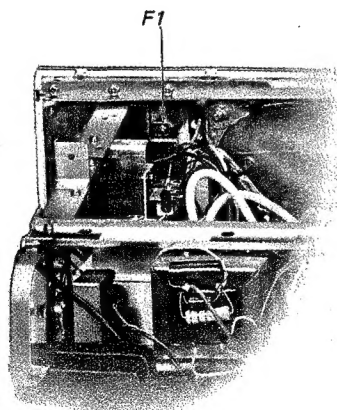

Fig. 2-8.
4. Remove the screw labeled F1 in Fig. 2-8.